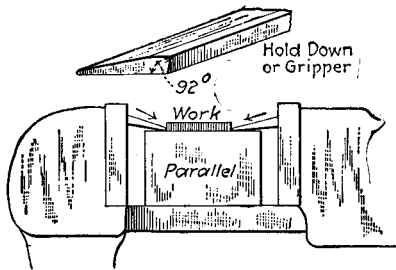

Fig. 2-19. Action of hold-downs.
*Hold-downs or Grippers* (Fig. 2-19). Hold-downs, or grippers, are thin pieces of approximately triangular cross section, of the length